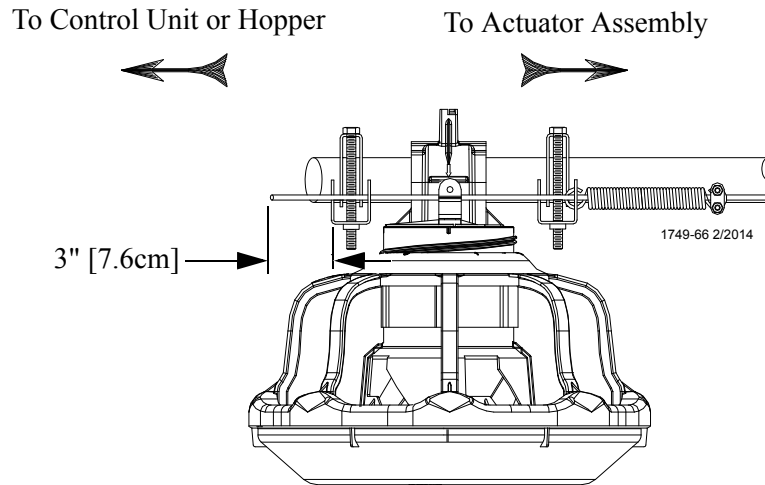

Figure 71. Trim excess actuator wire at control/hopper
8. With the brood in the open position. Go to the control unit or hopper end to trim the extra actuator wire. Leave **3 inches [7.6 cm]** of excess wire past the spring bracket, **Figure 71**.